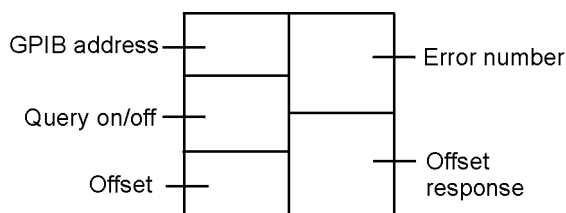

Figure 10: Implementing the Offset Driver
1. Insert offs.vi and wire it as shown in Figure 10. The inputs are displayed on the left side; the outputs are displayed on the right side.